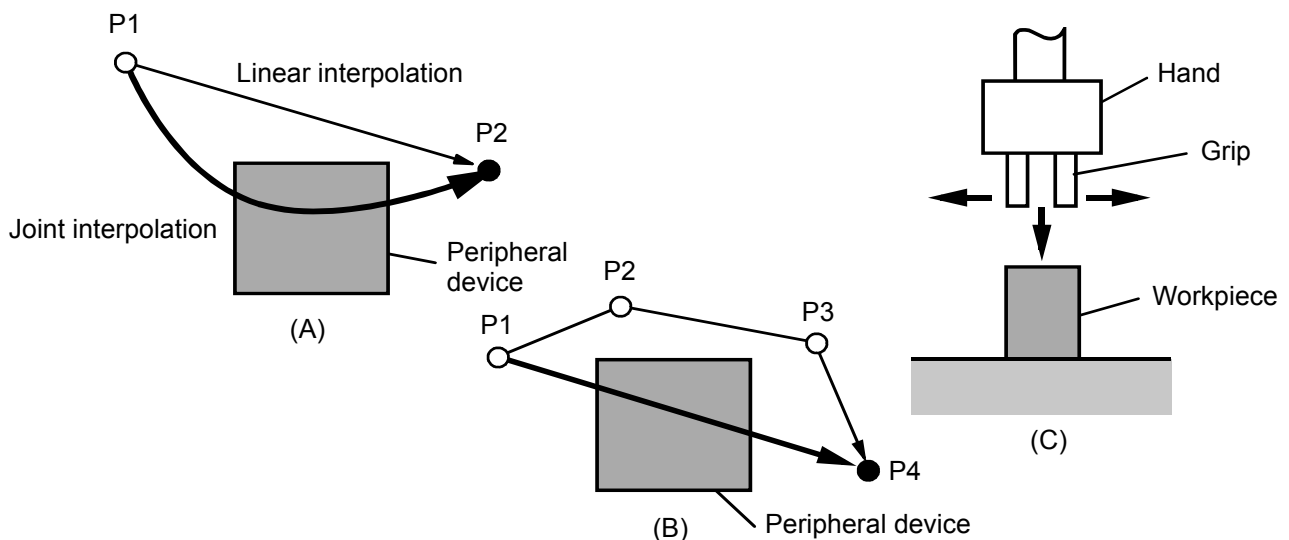

Fig.1-2:Example of work mistake during teaching
An example of an interference mistake by the robot and peripheral device such as the workpiece, which may occur easily during teaching, is shown for reference in Fig. 1-2. Here, (A) is interference during movement with joint interpolation, (B) is interference caused by an incorrectly set movement destination position No., and (C) is interference caused by an incorrect hand grip open/close setting.